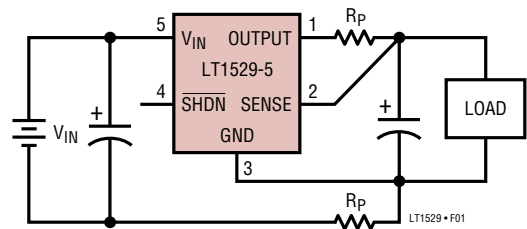

Figure 1. Kelvin Sense Connection
**SENSE (Pin 2):** SENSE Pin. For fixed voltage versions of the LT1529 (LT1529-3.3, LT1529-5) the SENSE pin is the input to the error amplifier. Optimum regulation will be obtained at the point where the SENSE pin is connected to the output pin. For most applications the SENSE pin is connected directly to the OUTPUT pin at the regulator. In critical applications small voltage drops caused by the resistance ( $R_P$ ) of PC traces between the regulator and the load, which would normally degrade regulation, may be eliminated by connecting the SENSE pin to the OUTPUT pin at the load as shown in Figure 1 (Kelvin Sense Connection). Note that the voltage drop across the external PC traces will add to the dropout voltage of the regulator. The SENSE pin bias current is  $15\mu\text{A}$  at the nominal regulated output voltage. This pin is internally clamped to  $-0.6\text{V}$  (one  $V_{BE}$ ).